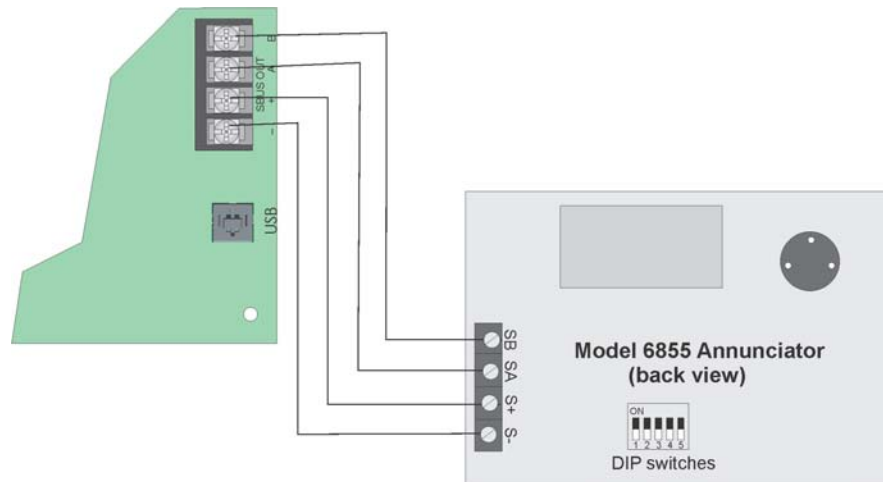

Figure 4.20 FACP Connection to 6855
3. Wire the Annunciator board to the main control panel. See Figure 4.20.